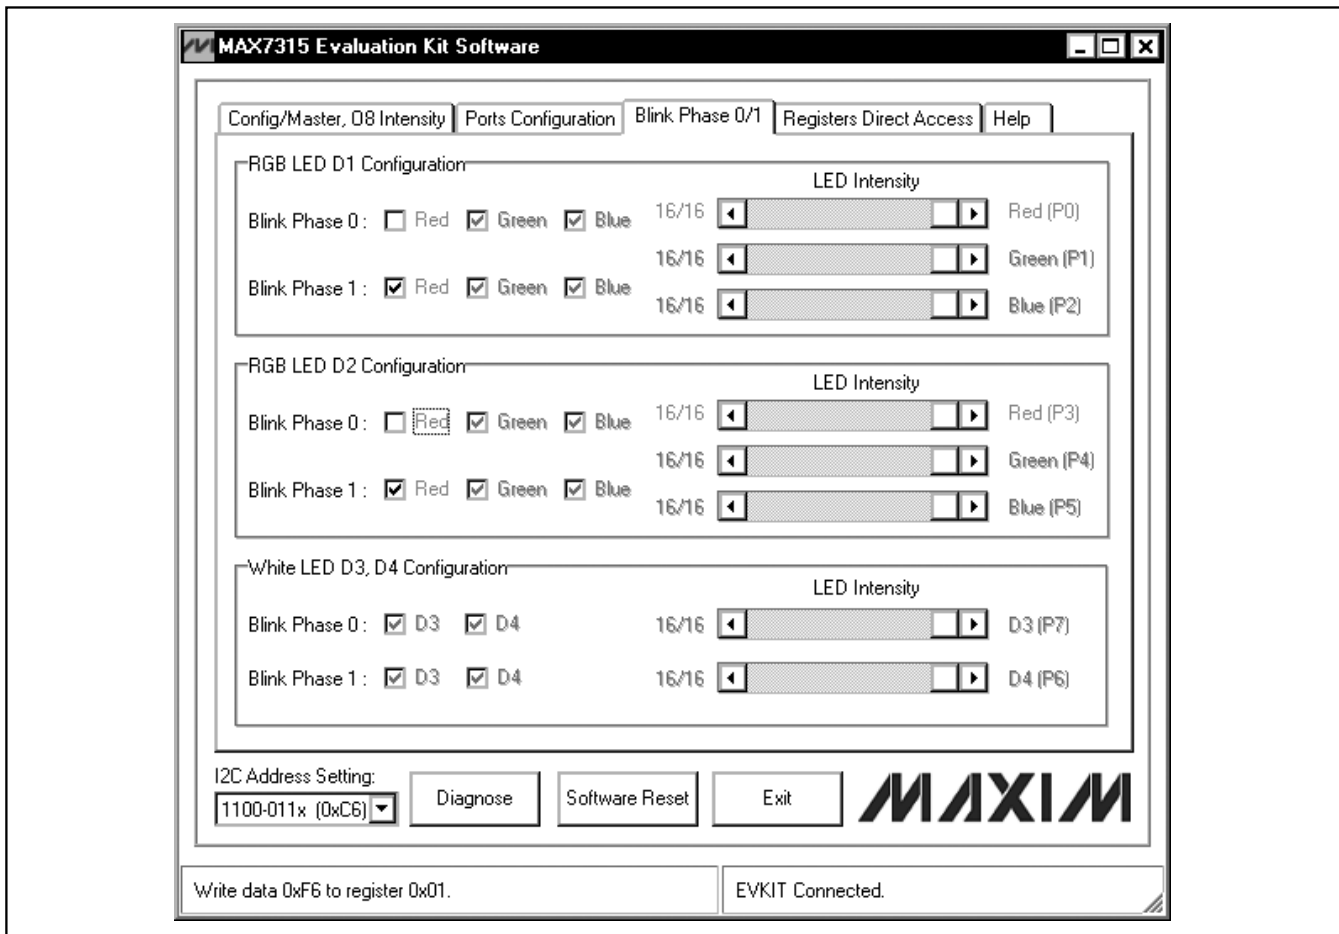

Figure 3. Blink Phase 0/1 Tab
- 13) Switch to the **Blink Phase 0/1** tab (Figure 3). In the **RGB LED D1 Configuration** group box, uncheck **Red** in the **Blink Phase 0** line. In the **RGB LED D2 Configuration** group box, uncheck **Red** in the **Blink Phase 0** line. Observe the change of D1, D2 on the EV kit board.
The **Blink Phase 0/1** tab shown in Figure 3 contains the **RGB LED D1 Configuration**, the **RGB LED D2 Configuration**, and the **White LED D3, D4 Configuration** group boxes. These three group boxes control the **Blink Phase 0** (0x01), **Blink Phase 1** (0x09), and output intensity (0x10, 0x11, 0x12, 0x13) registers. They directly control LED D1, D2, D3, and D4.